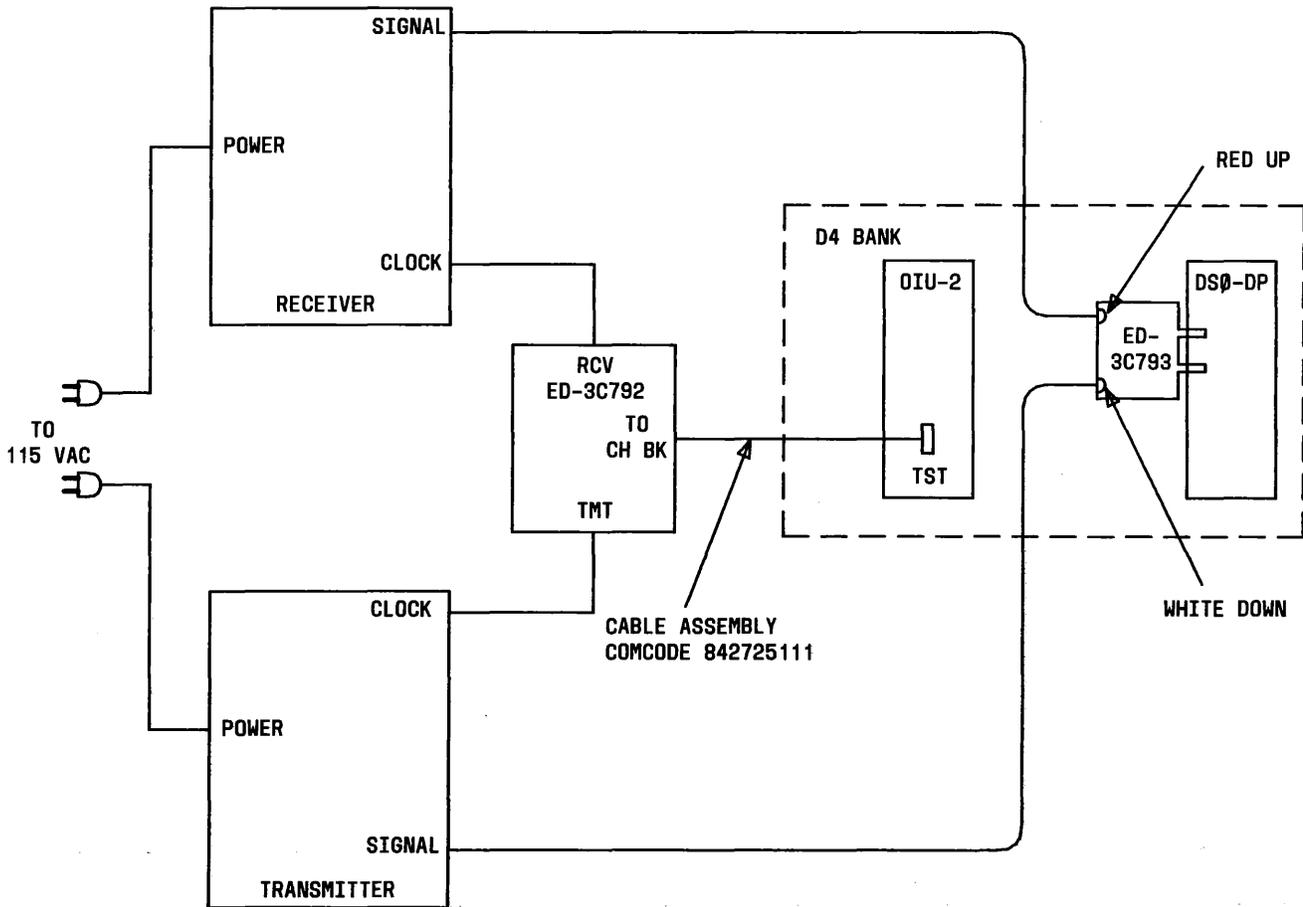

FIG. 1 - SRMU Installation Test Connections
12. Connect KS-20908 Receiver and KS-20909 Transmitter to DS0-DP in channel slot 2 [Fig. 1 ].